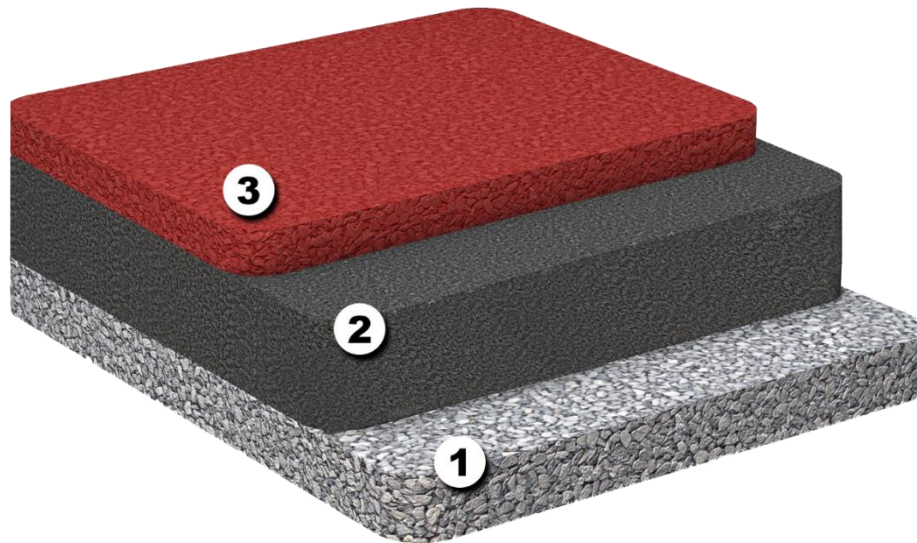

Figure 1. Schematic diagram of NEUROFLOOR safety surfacing.
NEUROFLOOR safety surfacing is laid on a primed asphalt, concrete, mineral or mineral-rubber base (*Fig. 1, layer 1*). The NEUROFLOOR system consists of two layers:
- Technical SBR granulate (2 - 6 mm) bound with PC 31-050 single-component polyurethane adhesive. The layer thickness depends on the height of the fall you want to cushion (*Figure 1, layer 2*).
- Virgin EPDM granulate (1 - 3.5 mm) bound with polyurethane adhesive. Depending on requirements, PC 31-050 (aromatic adhesive), PC 31-031 (aliphatic adhesive for EPDM, UV resistant) or PC 31-020 (aromatic adhesive for EPDM with fast setting reaction) are used. The EPDM layer thickness is fixed (10 mm) (*Fig. 1, layer 3*).